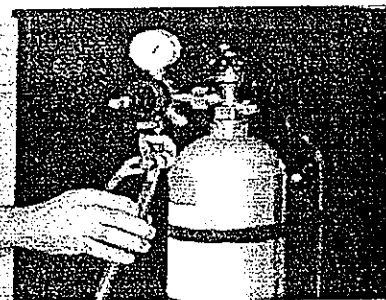

Fig. 3
- Secure hose by using one of the two clamps provided. Use pliers to tighten clamp and assure no leaks. (See Figure 3)